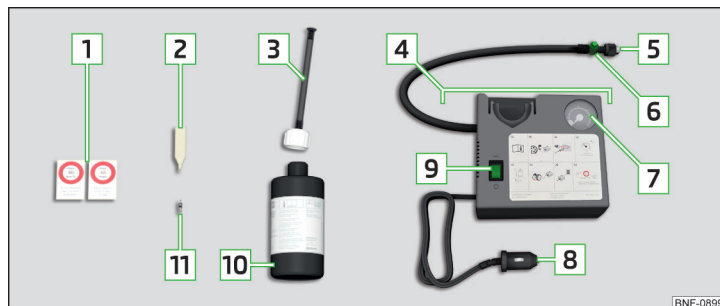

Fig. 277 Description of the breakdown kit
- Attach the valve remover  » Fig. 277 on page 225 onto the valve insert, so that the valve insert fits into the slot of the valve remover.
- Screw the air compressor tyre inflation hose  » Fig. 277 on page 225 firmly onto the tyre valve.